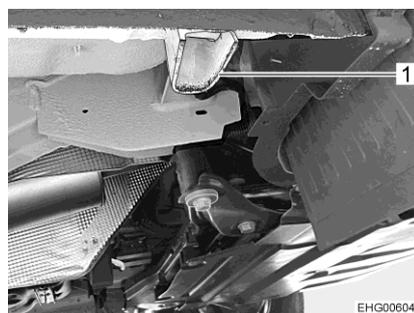

Fig. 230 Front axle mount
- If a wheel on the front axle is to be changed: apply the vehicle jack on the jacking point provided for this purpose (Fig. 230,1).